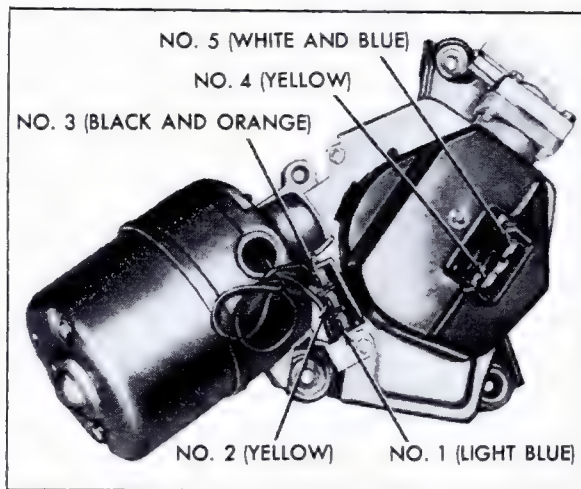

Fig. 12-26 Wiper Unit Terminals
b. Connect 12-volt supply to No. 2 terminal, Fig. 12-26, and connect a jumper wire from No. 1 terminal to ground. Wiper should operate in "Hi" speed.
c. To check "Lo" speed operation, connect a second jumper wire from No. 3 terminal, Fig. 12-26, to ground.